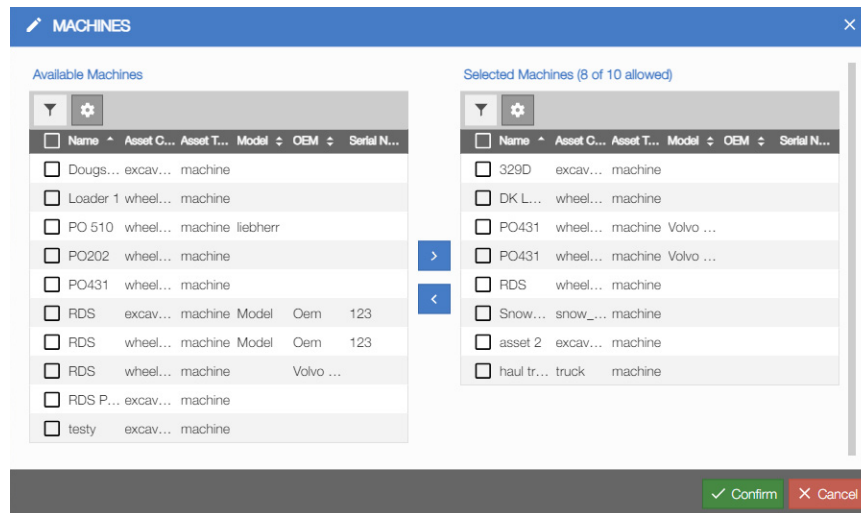

Figure 6-20: New Haul Summary Filter Selection
3. Select **Edit**  to select filters (Figure 6-20 on page 6-13):